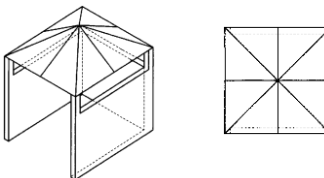

Figure 4 - Open side at least 25% of total wall area.
- At least 25% of the total wall area is completely open, (refer to Figure 4), and